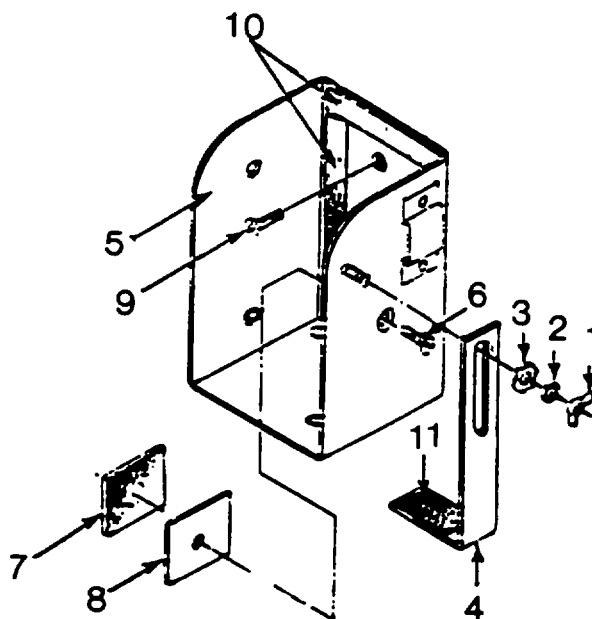

Figure 4-31. Telephone Bracket Assembly
4-34. TELEPHONE BRACKET ASSEMBLY. - Continueda. Inspect. (See Figure 4-31.)
b. Replace. (See Figure 4-31.)
- (1) Remove wingnut (1), lockwasher (2), flat washer (3), and bracket (4) from telephone bracket (5).
- (2) Remove screw (6), rubber backing (7), and plate (8).
- (3) Remove screws (9) and bracket (5).
- (4) If necessary, remove rubber padding (10 and 11).
- (5) If removed, install rubber padding (10 and 11) by gluing to brackets (5 and 4).
- (6) Install screws (9) and bracket (5).
- (7) Install plate (8), rubber backing (7) and screw (6).
- (8) Install bracket (4), flat washer (3), lockwasher (2), and wingnut (1).
c. Repair. (See Figure 4-31.)
c. Repair. - Continued (See Figure 4-31.)